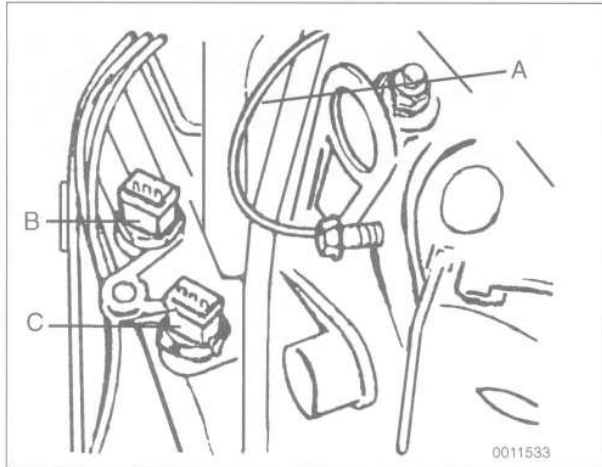

Fig. 14. Ground wire for ignition coils (A) and coolant temperature sensors (B, white connector, C, black connector).
9. Remove ground wire from rear engine lifting bracket and disconnect harness connectors from engine coolant temperature sensors at rear of engine. See Fig. 14.